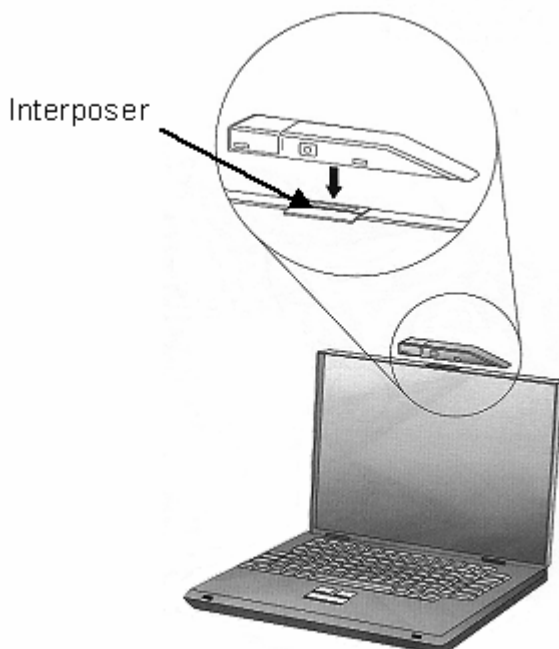

Figure 12-13.- Ultraport Camera position.
- 2.3 Open small cover above Interposer (refer to figure 12-13)
Refer to figures 12-13 and 12-14